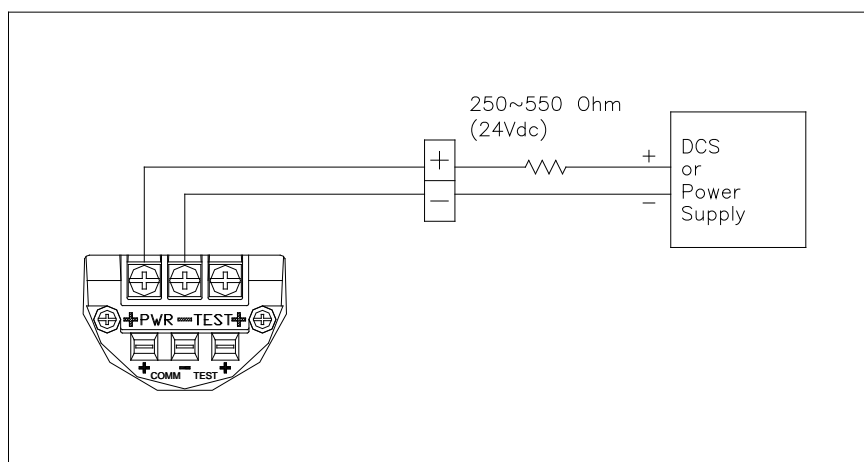

Figure 6-2 Connection with Terminal Board of Transmitter
- (1) Open the housing cover indicated "FIELD TERMINAL". NOTE: For hazardous environments do not open the covers when transmitter is powered and circuits are live.
- (2) Connect the power supply in the terminal indicated "+PWR" (left terminal) and "-" power supply in the central terminal. Do NOT connect "+" power supply in "+" terminal of the point indicated "TEST". It will damage the test diode used for connecting TEST terminal.
- (3) Unused holes shall be blocked by Ex db IIC and/or Ex tb IIIC blanking element.
- (4) Avoid running signal wiring near AC or high power lines. In case of ground signal, ground the signal loop's on one side making sure other side is not grounded.
- (5) Ensure loose contacts are eliminated and proper wiring connections are maintained.
- (6) After wiring replace transmitter cover. In case of explosion proof areas, you must satisfy all requirements to maintain certification requirements.
- (7) Do not supply high voltage AC power into transmitter leads as it can cause permanent damage to transmitter.
- (8) Use surge protectors to protect transmitter from external power surges.
- (9) Ensure you have a 250~600 W Loop Resistor in current loop (between power supply and transmitter) for proper HART® Communication. Follow Figure 6-2 below for wiring instructions.